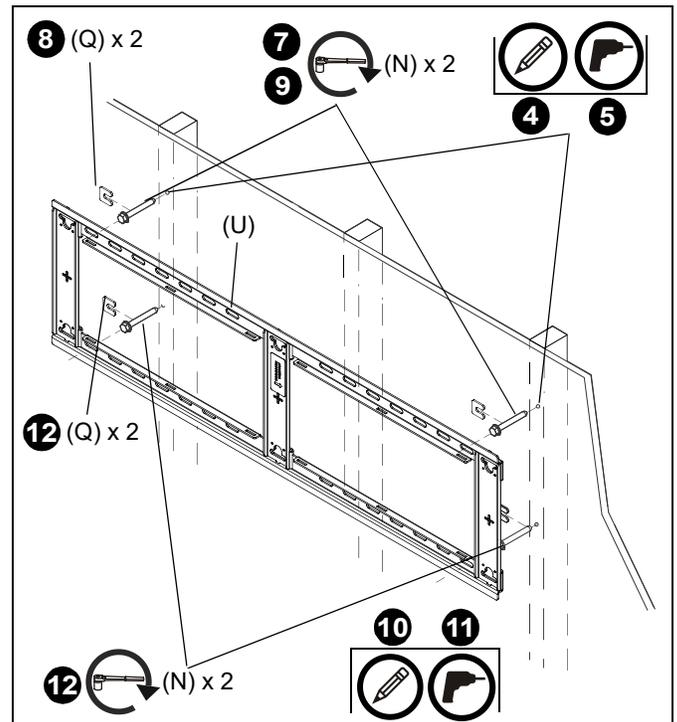

Figure 2
4. Using a level, mark the wall on each stud to attach the mount through the upper mounting slots. (See Figure 2)
6. Partially install two 5/16 x 2-1/2" flanged lag bolts (N) into pilot holes but do not tighten to wall.
7. Hang mount (U), aligning upper mounting slots over lag bolts and adjust side-to-side for proper location.
8. Place one slotted washer (Q) over each flanged lag bolt. (See Figure 2)
9. Tighten lag bolts to secure mount (U) to wall at upper mounting slots.
10. Mark the attachment points for the lower mounting slots, making sure the attachment points are located on the studs. (See Figure 2)
11. Drill 7/32" (5.5mm) pilot holes at markings for lower mounting holes. (See Figure 2)
12. Use two 5/16 x 2-1/2" flanged lag bolts (N) and two 5/16" slotted washers (Q) to attach the mount to the wall through the lower mounting holes. (See Figure 2)
13. Slide mount (U) to approximate center of screen location.
3. Mark location of four mounting holes on wall. (See Figure 2)